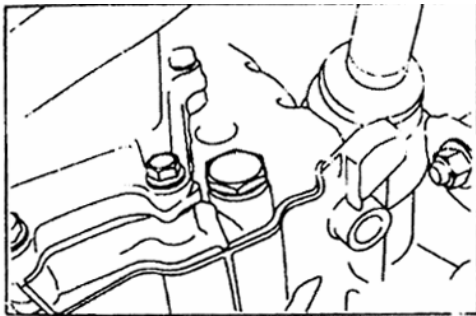

Fig 11A-187
- (3) Remove the drain plug at the bottom of the transmission case to drain out the remaining ATF as Fig.11A-187.